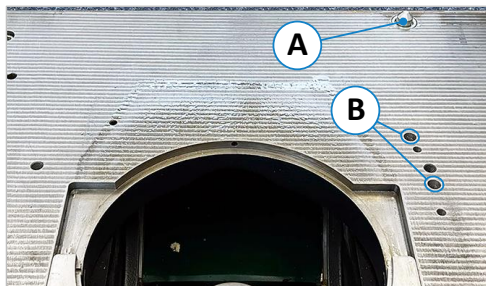

Figure 21: Locking bolts and detent holes
Placing and aligning the fence on the machine table is identical for both available fence types (215 and 216). The position of the centring pins (Z) is on the right side of the fence (seen from the front, refer to ⇒ Figure 21).